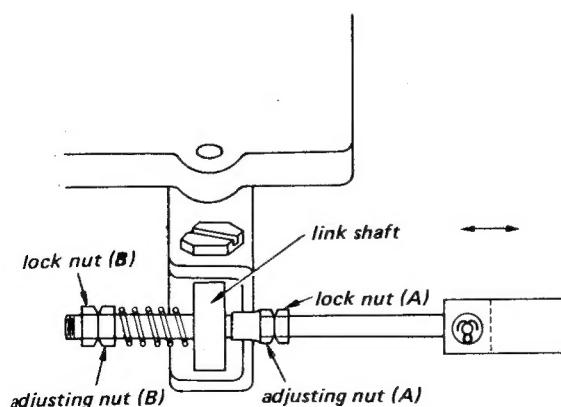

Fig. 5-1-3. Pinch roller pressure adjustment (1)
2. Adjust the adjusting nut (A) for 1 mm (3/64") clearance between the link shaft and the adjusting nut (A). See Fig. 5-1-3.